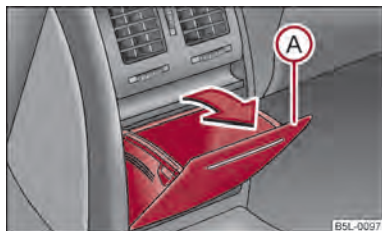

Fig. 84 Centre console at rear: Storage compartment
- Open the storage compartment by pulling on the upper edge of the storage compartment (A) in the direction of arrow ⇒ fig. 84.